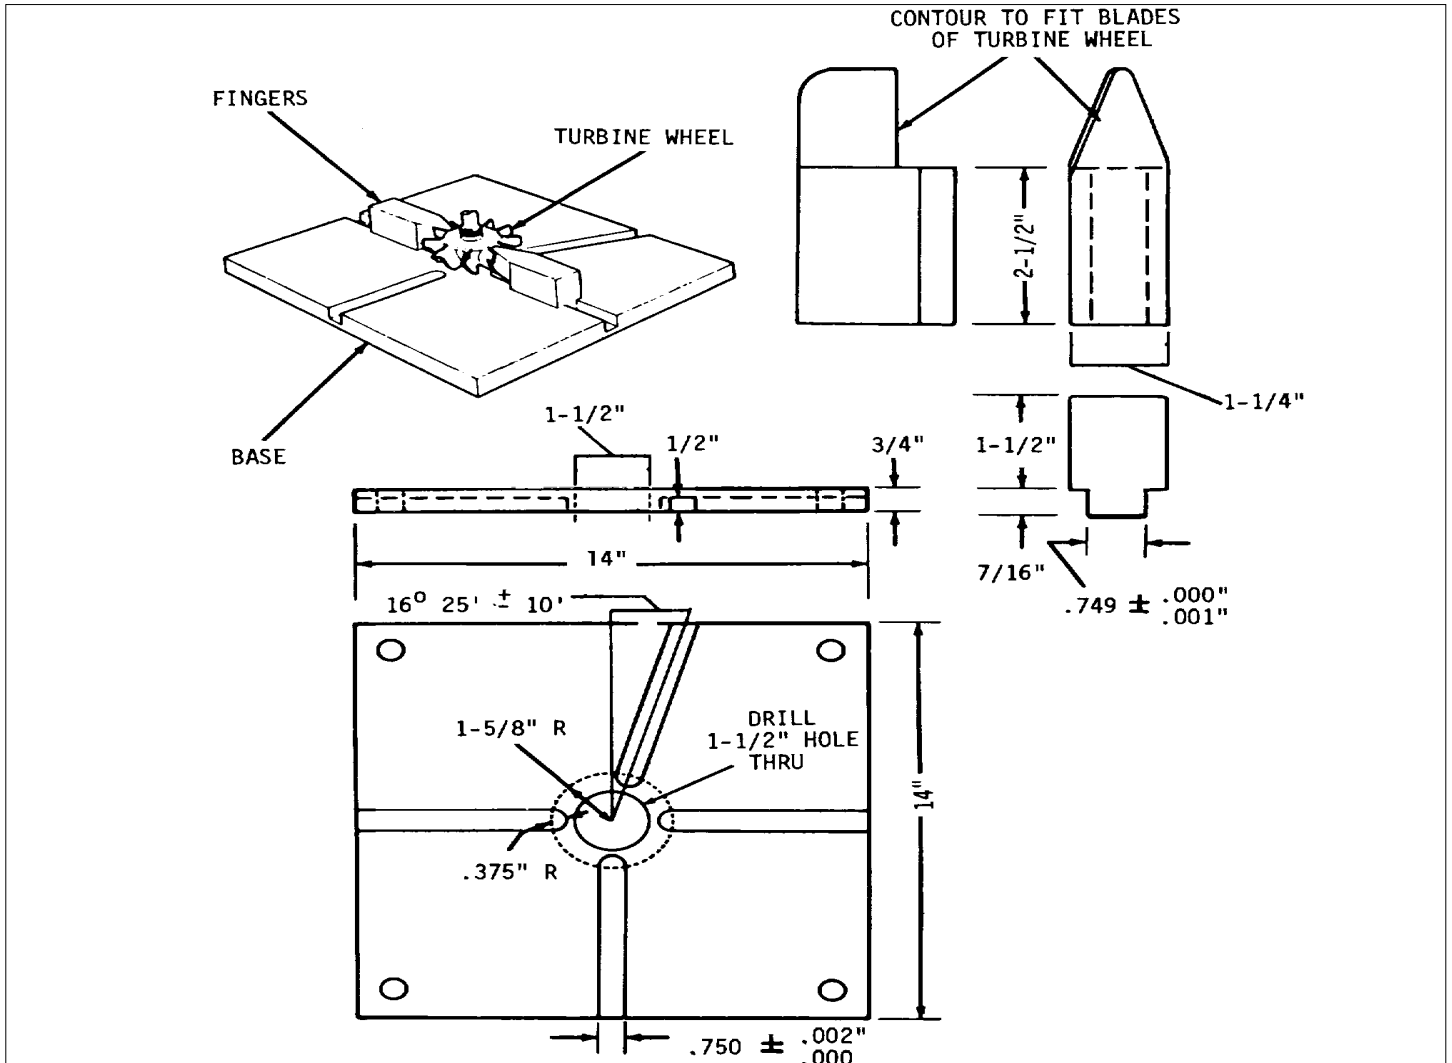

Fig. 7
- (3) Position the turbine wheel (9) of the center housing assembly in a suitable holding fixture (Fig. 7). Remove the wheel nut (7) from the shaft.
- (11) Place the turbine wheel shaft assembly, shroud, center housing and backplate up right in a suitable holding fixture as shown in Fig. 7.